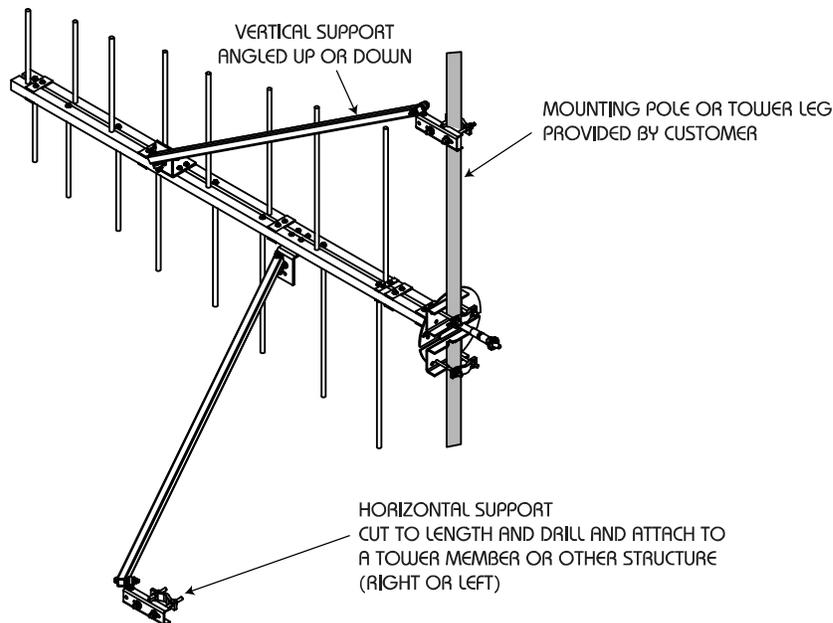

Figure 5. Mounting antenna on tower (vertical polarization shown)
- In addition to the above parts, before beginning you need to have (see Figure 5):
4) Do not attach the brace channel to the horizontal support (18) at this time.
e. Mount the antenna bay on the pole or tower (Figure 5):